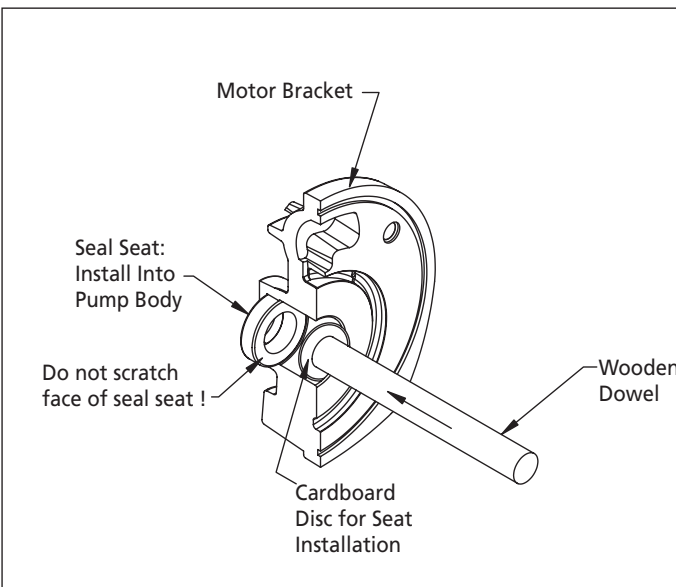

Figure 6 - Seal Seat Installation
3. Wet the rubber portion of the new seal seat with a light coating of soapy water. While wearing clean gloves or using a clean light rag, press seal seat squarely into adapter recess. Use the cardboard washer (usually supplied with new seal) to place over the polished ceramic surface and use a piece of pipe or dowel rod to press in firmly but gently (See Figure 6). Avoid scratching the ceramic face, usually white.